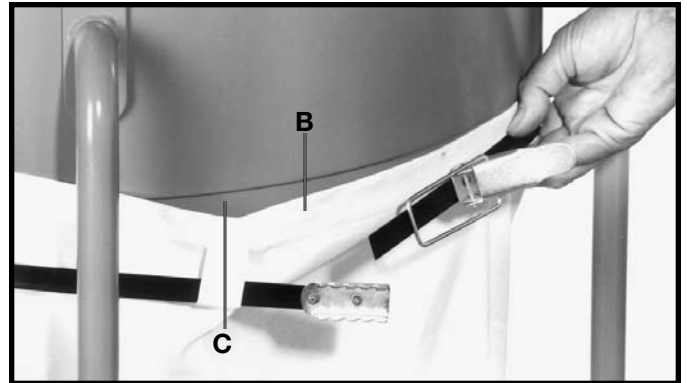

Fig. 28
2. Place the opening of the dust bag (B) Fig. 28, over the bottom lip of drum (C) as shown.